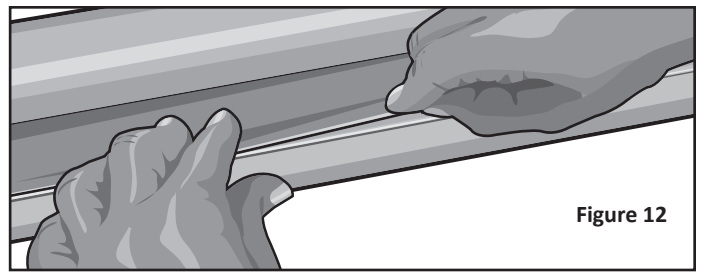

Figure 12
20. Press the Fabric onto the Double Sided Adhesive Tape to secure it in place. Move slowly down the Roller Bar until you have the replacement Fabric secured to the Roller Bar. See **Figure 12**.